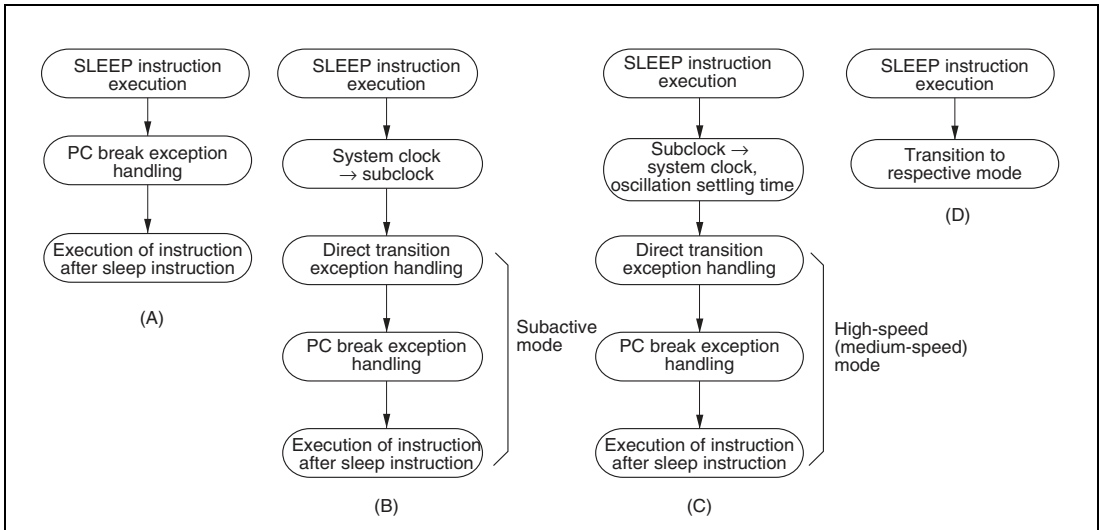

Figure 6.2 Operation in Power-Down Mode Transitions
- (1) When the SLEEP instruction causes a transition from high-speed (medium-speed) mode to sleep mode, or from subactive mode to subsleep mode
After execution of the SLEEP instruction, a transition is not made to sleep mode or subsleep mode, and PC break interrupt handling is executed. After execution of PC break interrupt handling, the instruction at the address after the SLEEP instruction is executed (figure 6.2 (A)).
- (2) When the SLEEP instruction causes a transition from high-speed (medium-speed) mode to subactive mode
After execution of the SLEEP instruction, a transition is made to subactive mode via direct transition exception handling. After the transition, PC break interrupt handling is executed, then the instruction at the address after the SLEEP instruction is executed (figure 6.2 (B)).
- (3) When the SLEEP instruction causes a transition from subactive mode to high-speed (medium-speed) mode
After execution of the SLEEP instruction, and following the clock oscillation settling time, a transition is made to high-speed (medium-speed) mode via direct transition exception handling. After the transition, PC break interrupt handling is executed, then the instruction at the address after the SLEEP instruction is executed (figure 6.2 (C)).
- (4) When the SLEEP instruction causes a transition to software standby mode or watch mode
After execution of the SLEEP instruction, a transition is made to the respective mode, and PC break interrupt handling is not executed. However, the CMFA or CMFB flag is set (figure 6.2 (D)).